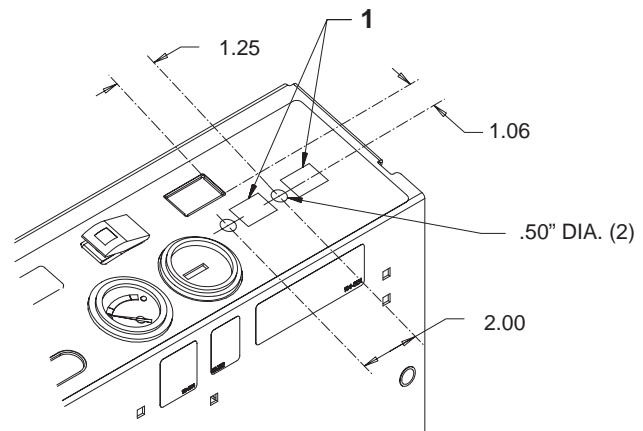

Figure 17
- Using dimensions shown in figure 17, locate, mark and drill (2) .50" holes in top of control console.
- Affix the decals to control panel at locations shown in figure 17.